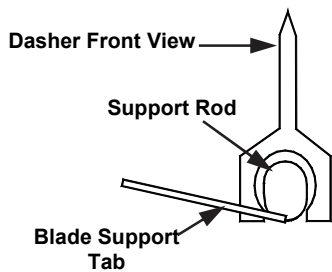
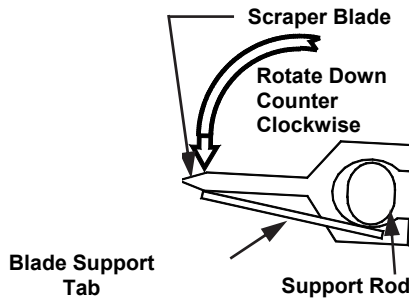

Fig. 17
Fig. 18
- e. (108 Only) Install the scraper blades onto the dasher assembly by holding the blades perpendicular to the tabs (Fig. 17) and then snapping them over the flat area of the support rod. Then rotate the blades downward in a counterclockwise direction as viewed from the front of the dasher (Fig. 18). **BE CERTAIN THAT THE SCRAPER BLADES REST UPON THE DASHER TABS.**